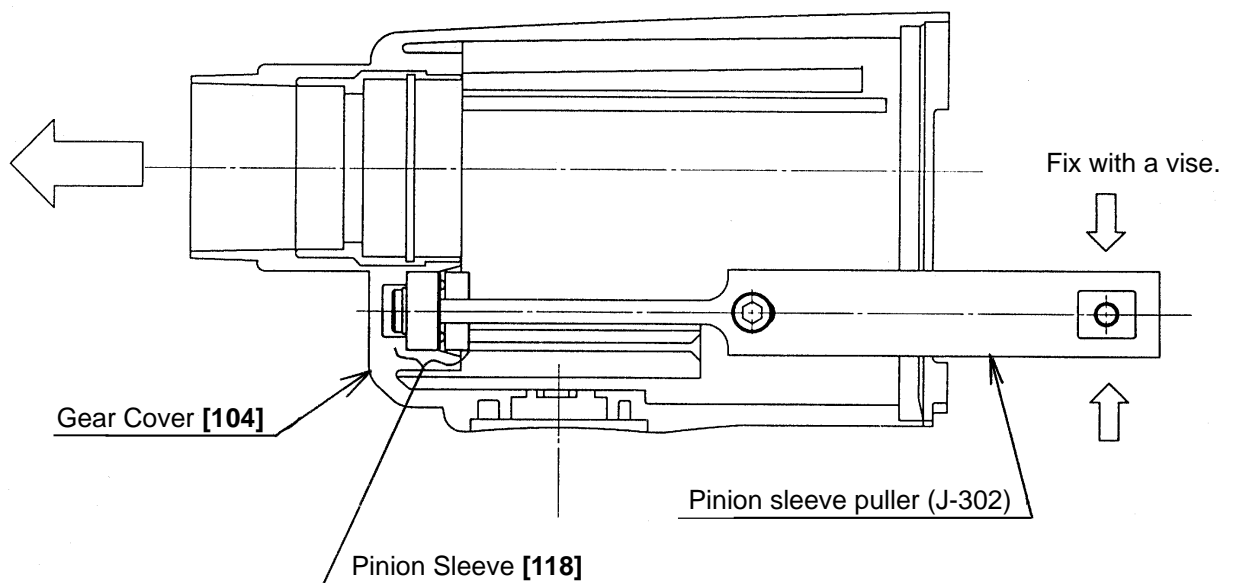

Fig. 18
- Pinch the Pinion Sleeve [118] with the pinion sleeve puller (J-302) and fix the pinion sleeve puller to a vise. Pull the Gear Cover [104] to remove the Pinion Sleeve [118] from the gear cover (Fig. 18).